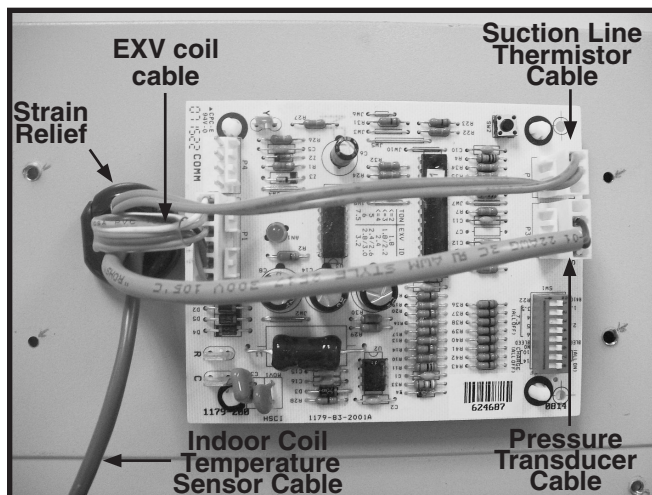

Figure 3. Control Board and Cables
4. Remove EXV circuit board from packaging and install on upper cabinet as shown in Figure 3.